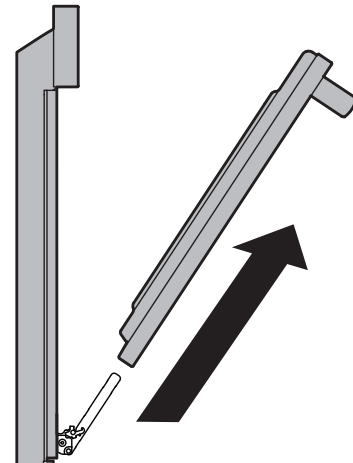

Figure 20: Remove door
4. Pull the bottom of the door toward you while rotating the top of the door toward the appliance to completely disengage the hinge levers (Figure 20).
1. Firmly grasp both sides of oven door along the door sides. Do not use the oven door handle (Figure 20).